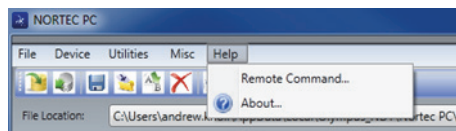

Figure 6-16 Selecting the Remote Command
- ◆ On the **Help** menu, select **Remote Command** (see Figure 6-16 on page 314). The command list opens in a separate window using the PC's default software for viewing PDF files.